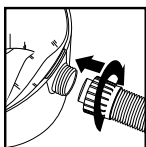

FIGURE 29
42. Reinsert hose into inlet and tighten the locking-nut. **FIGURE 29.**